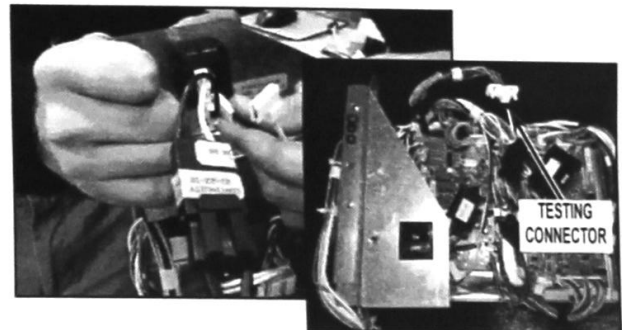

FIGURE 18
20. Reconnect Line and Neutral from the new HV assembly to the master power switch on the switch plate assembly. If switch plate does not have hole for end of line testing connector, leave testing connector unattached behind the switch plate. See Figure 18.